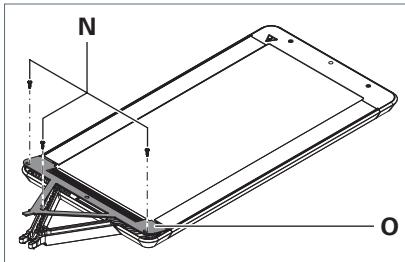

Fig. 4: Removing the cover.
- ▶ Unscrew the screws **N** from the cover **O**, see Fig. 4.